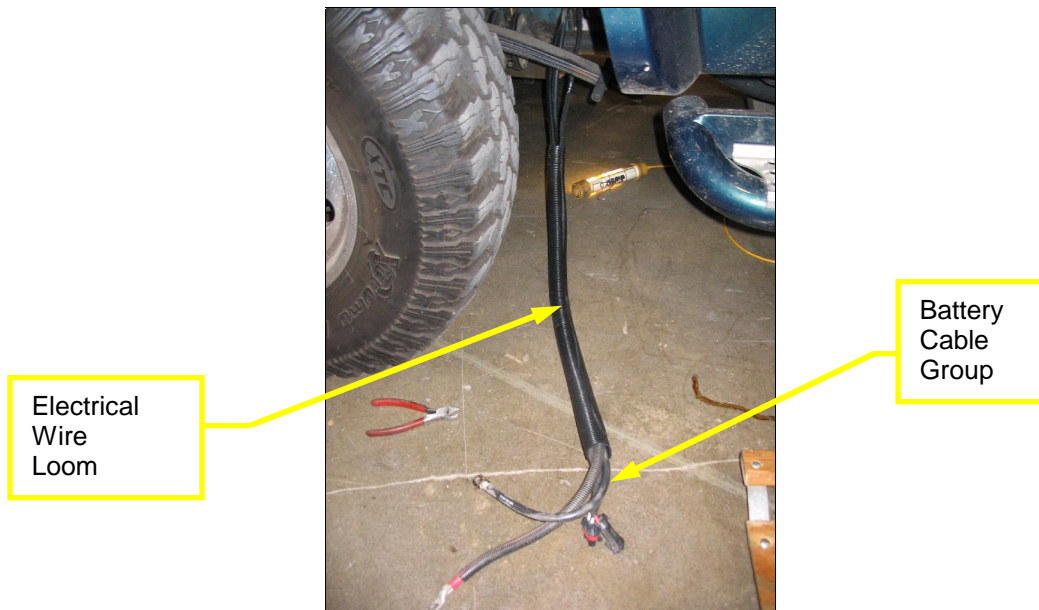

Figure 1.
6. Install the electrical wire loom 2644081R1 over the battery cable group as shown in Figure 1.